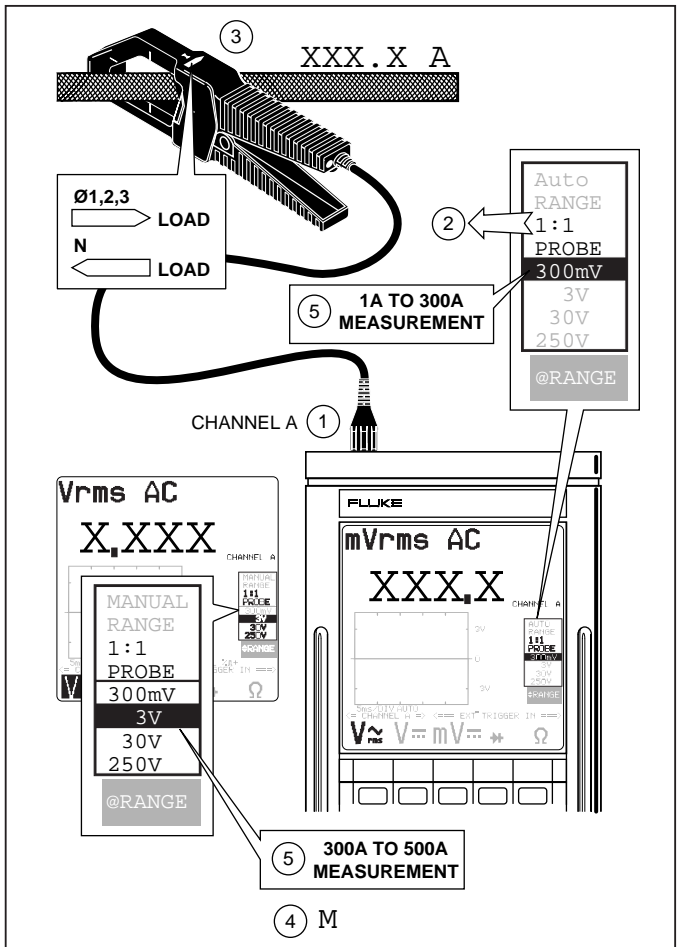

Figure 3. Setup Guide (Meter Mode)
1. See Figure 3. Connect the 80i-500s Current probe to Channel A.